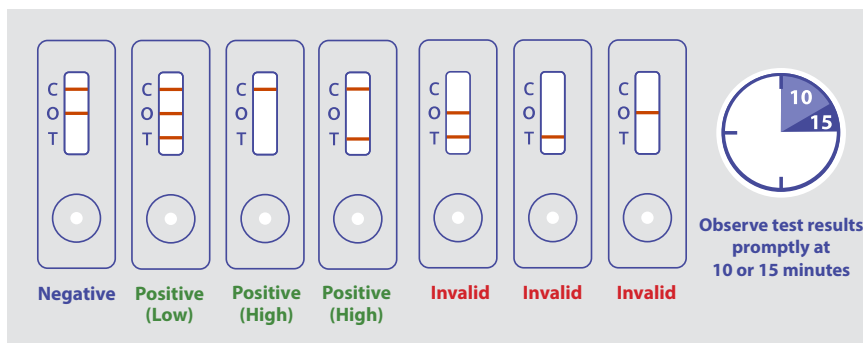

Figure 3. Interpreting Test Outcomes
9.1. A negative result is indicated by the development of a strong control line (C) and overload (O) line. An example of a negative result is depicted in **Figure 3** labeled “**Negative**”.
9.2. Positive test results at lower analyte concentrations will result in the appearance of the test line (T) in addition to the overload line (O) and/or the control line (C). At higher analyte concentrations, the test line (T) and/or the overload line (O) will disappear, leaving only the appearance of the control line (C). Thus at high analyte concentrations, the disappearance of the overload line (O) indicates that the sample is positive for the analyte regardless of the appearance of the test line (T). Examples of positive results are depicted in **Figure 3** labeled “**Positive**”.